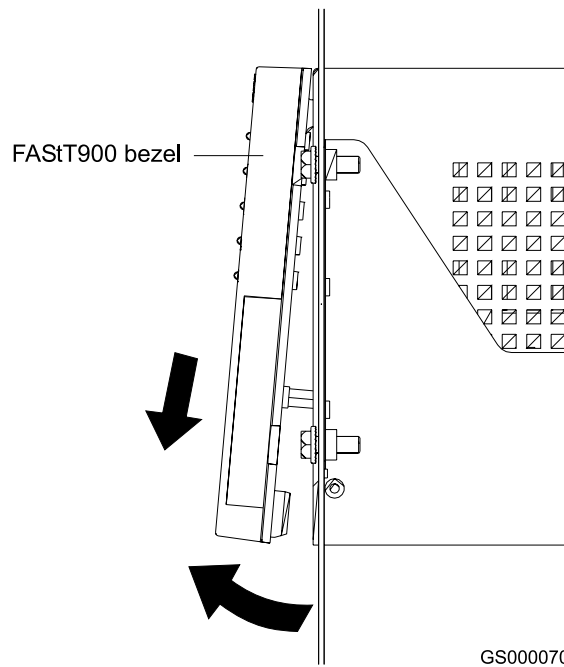

Figure 21. Removing the FAST900 Storage Server bezel
To access the controller blades, battery, storage server fan, and indicator lights, you must remove the FAST900 Storage Server bezel, as shown in Figure 21.
1. Carefully pull the bottom of the bezel out to release the pins. Then slide the bezel down as shown in Figure 21.
**Note:** To view the RAID controller indicator lights, remove the FASt900 Storage Server bezel, as shown in Figure 21 on page 16.
**Note:** To view the battery indicator lights, remove the FASTt900 Storage Server bezel, as shown in Figure 21 on page 16.